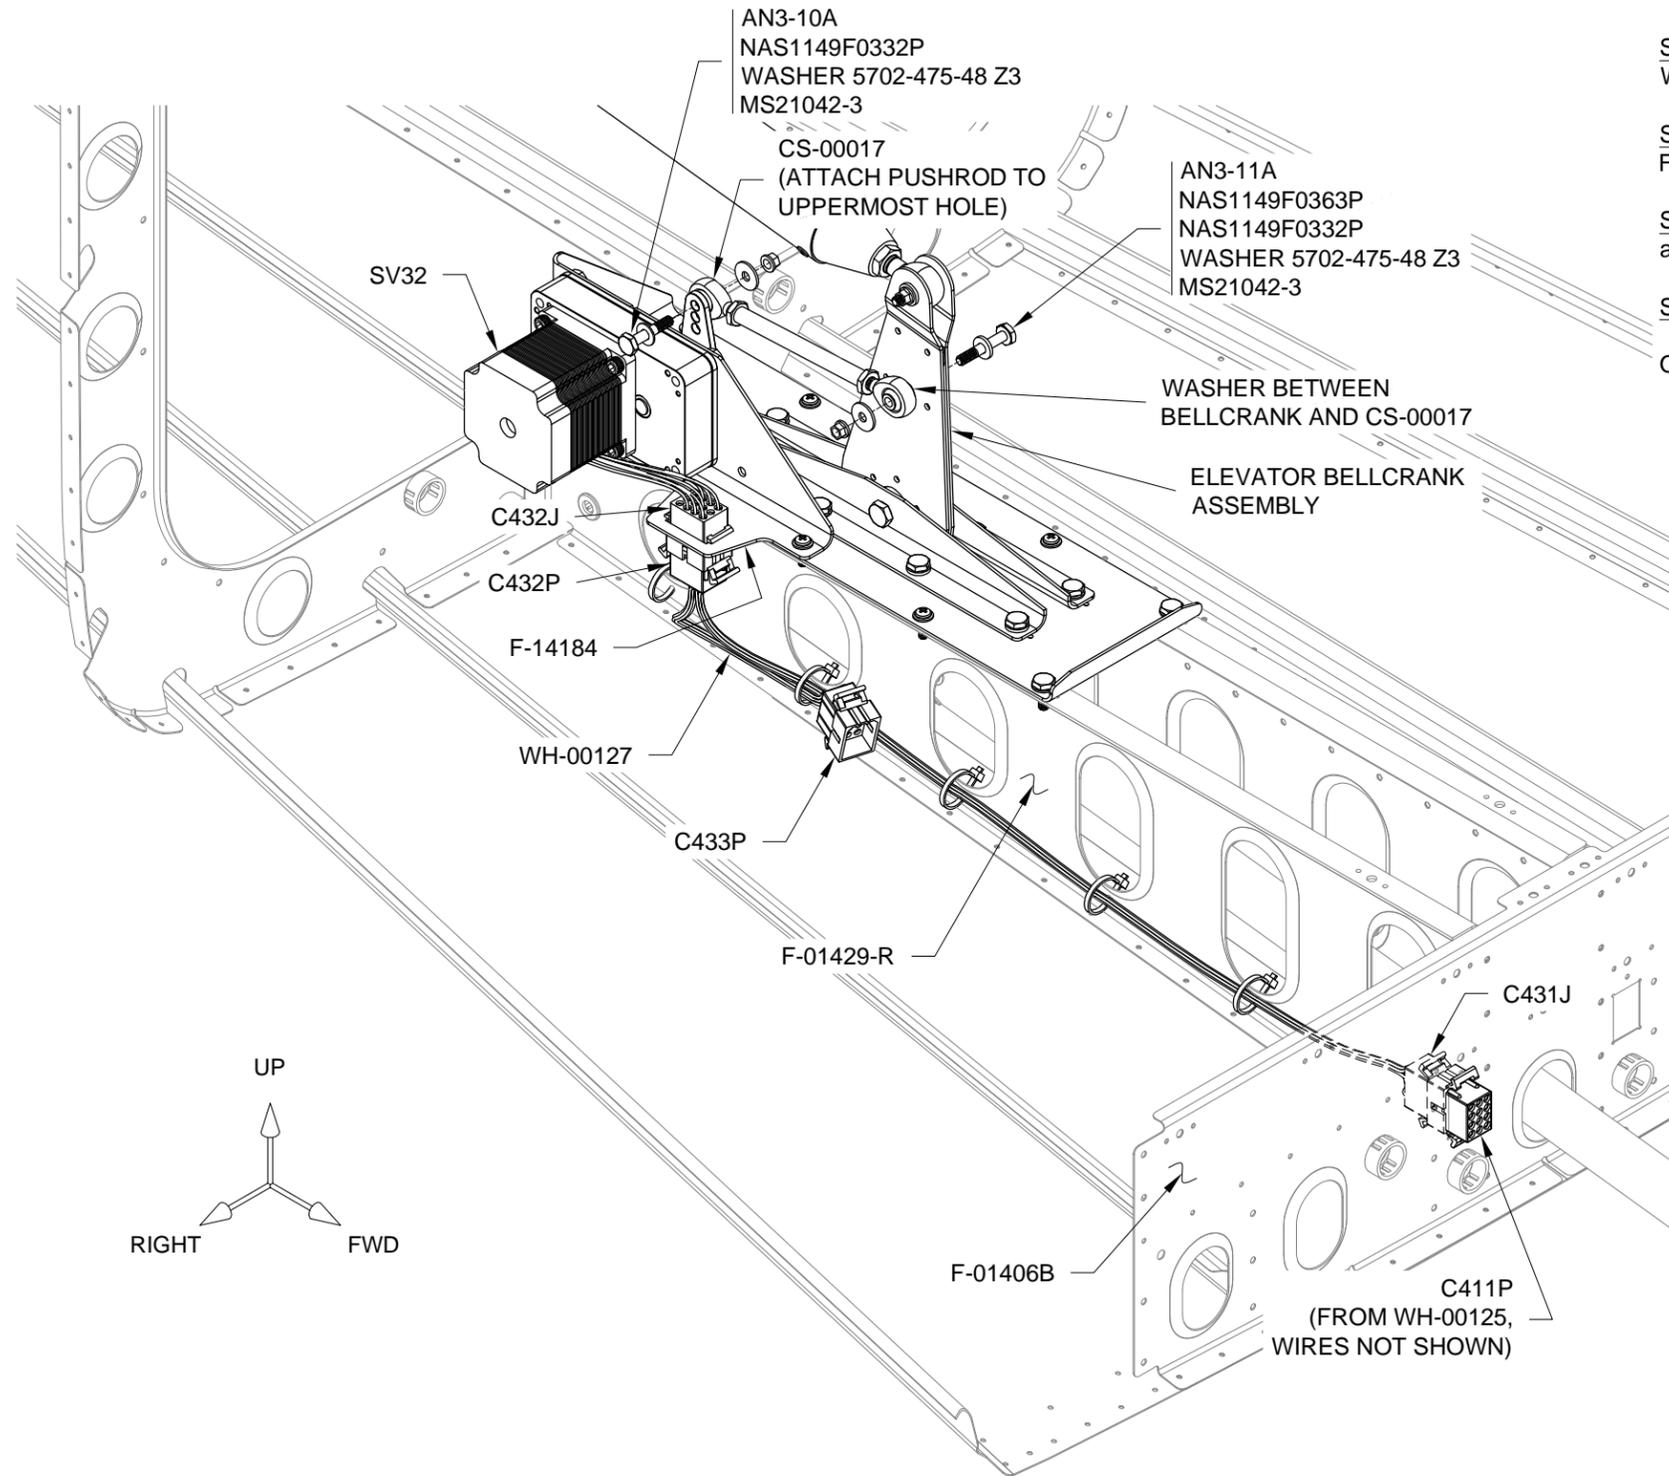

FIGURE 1: CONNECT PITCH SERVO
Step 3: Attach the CS-00017 Pitch Servo Pushrod Assembly to the SV32 Autopilot Servo and to the Elevator Bellcrank Assembly as shown in Figure 1. Before installation, verify that the correct pushrod is being used by comparing the pushrod length with Figure 2 on Page 57-02.
Step 7: Connect C432J to C432P through the opening in the F-14184 Pitch Servo Bracket as shown in Figure 1.